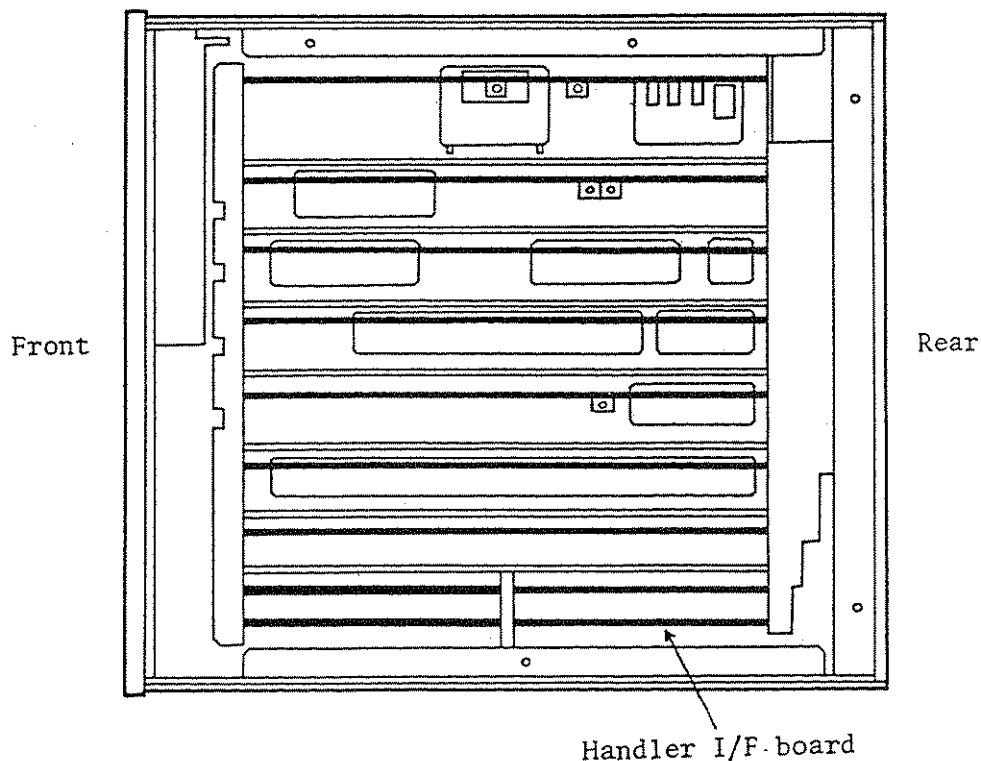
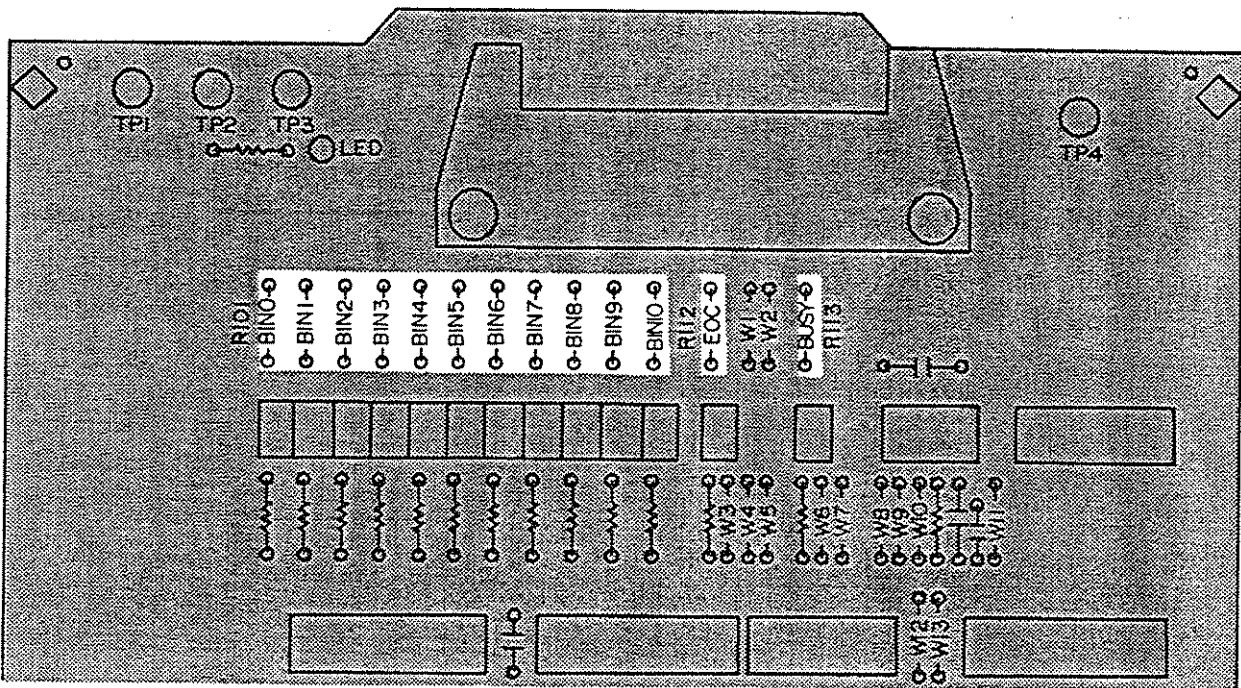
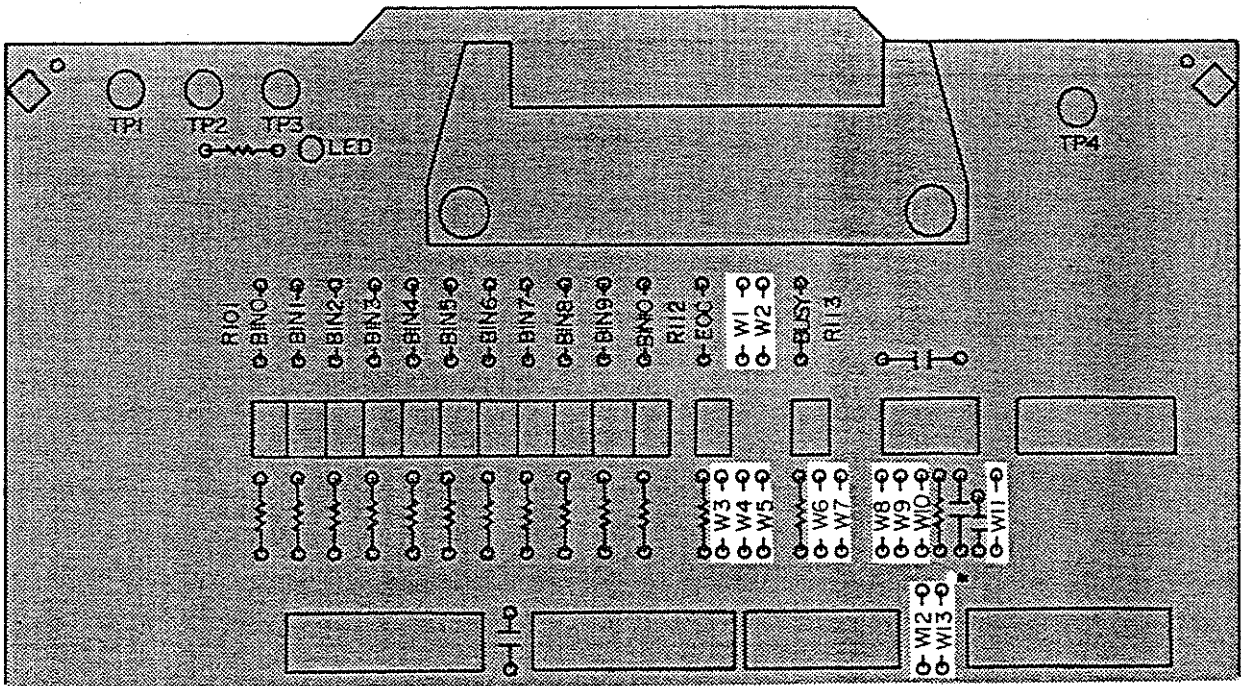

Figure 3-1. Handler Interface Board Location
Figure 3-2. Pull-Up Resistor Locations
Figure 3-3. Configuration Jumper Locations
Figure 3-1 shows the location of the handler interface board in the HP 4284A, Figure 3-2 shows the locations of the pull-up resistors on the handler interface board, and Figure 3-3 shows the locations of the handler interface jumpers.
6. Disconnect the flat cable connected to the handler interface board which has Brown and Orange extractors, as shown in Figure 3-1.
7. If the comparison output signals are TTL levels signals and if these signals are not pulled up by the handler, determine the pull-up resistor value (1.78 K Ω is recommended) and referring to Figure 3-2 for the locations of the BIN pull-up resistors, install the pull-up resistors.
8. If the control outputs (EOC, BUSY) are to be TTL level signals and if these signals are not pulled up by the handler, determine the pull-up resistor value (1.78 K Ω is recommended) and referring to Figure 3-2 for the locations of R112 (EOC) and R113 (BUSY), install the pull-up resistors.
10. Use Figure 3-3 to locate the location of the required jumpers and install the jumpers.
12. Use Figure 3-3 to find the location of the required jumpers and install the jumpers.